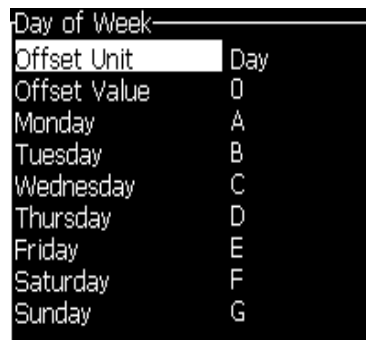

Figure 5-46: Encoded Day of Week
- 3 Select *Setup Encoded Day of Week* and press *Enter* to open the *Day of Week* dialog box (see Figure 5-46 on page 5-54).